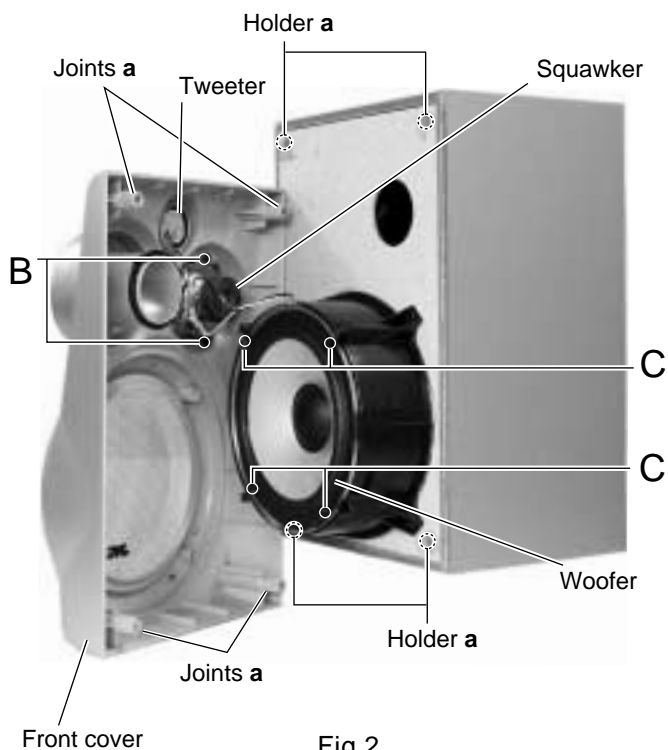

Fig.2
■ Removing the squawker (See Fig.2)
■ Removing the woofer (See Fig.2)